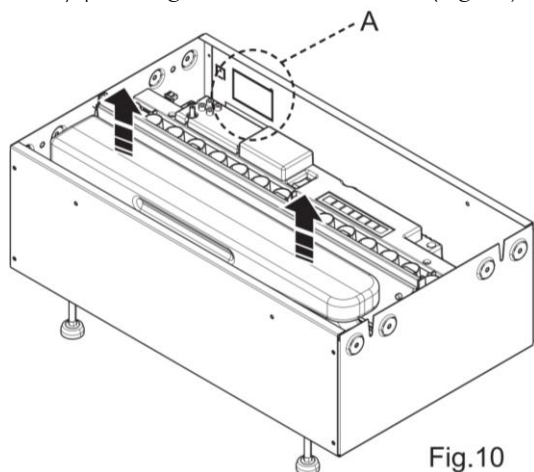

Fig.10
With Optimyst technology you can create a flame effect that is unique to you. First ensure the appliance is on by pressing the main switch to I (Fig 10).
3. Disconnect the fill cap from its position on top of the sump (Fig 37) or remove water bottle if used (Fig 10 & 11).